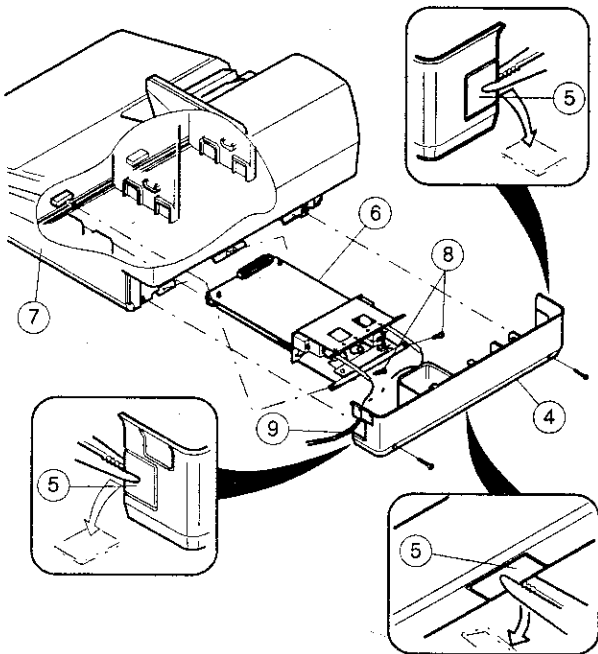

Fig. 5
3) Remove two rear cover holding screws and remove the rear cover ④ (Fig. 5).
4) Break open the knockout ⑤ of the rear cover ④ (Fig. 5). After breaking open the knockout ⑤, file off the new hole.
5) Insert the interface PWB ⑥ onto the connector of the main PWB ⑦, and fasten the bracket to the main chassis using screws ⑧ (LX-BZ6774RCZZ: Self tap screw) (Fig. 5).
- 6) Route the external cable ⑨ through the hole and fasten the rear cover (Fig.5)
In the ER-A610, option cables can be pulled out from three points in the rear cover of the body. Refer to figs. 5, 6, 7 and 8.